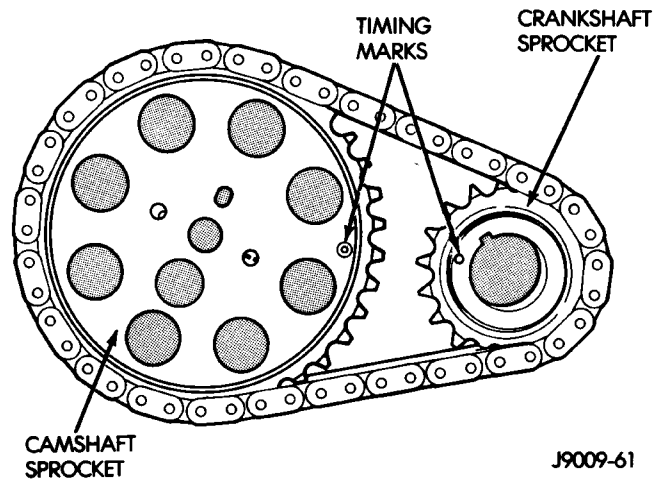

Fig. 47 Timing Chain Alignment—Typical
- (7) Remove the serpentine drive belt.
- (8) Remove the crankshaft vibration damper.
(9) Remove the timing case cover. Clean the gasket material from the cover.
(10) Remove the thrust pin and tension spring from the preload bolt head.
(11) Rotate crankshaft until the crankshaft sprocket timing mark is closest to and on the center line with the camshaft sprocket timing mark (Fig. 47).
- (1) Clean the camshaft pin hole.
- (2) Compress the center of the replacement spring pin with vise grips.
- (3) Carefully drive the pin into the camshaft pin hole until it is seated.
- (4) Install the camshaft sprocket, crankshaft sprocket and timing chain with the timing marks aligned (Fig. 47).